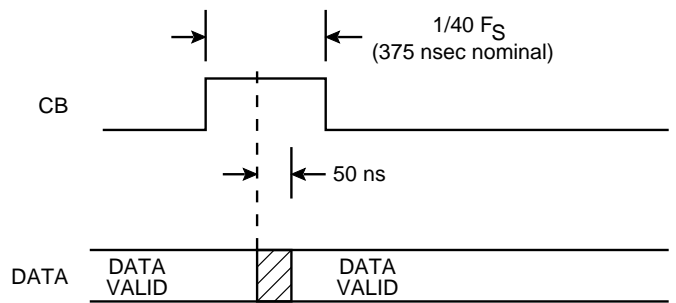

FIGURE 15. CONVERTER BUSY TIMING
The Converter Busy (CB) signal indicates that the tracking converter output angle is changing 1 LSB. As shown in FIGURE 15, output data is valid 50 ns maximum after the middle of the CB pulse. CB pulse width is  $1/40 F_s$ , which is nominally 375 ns.